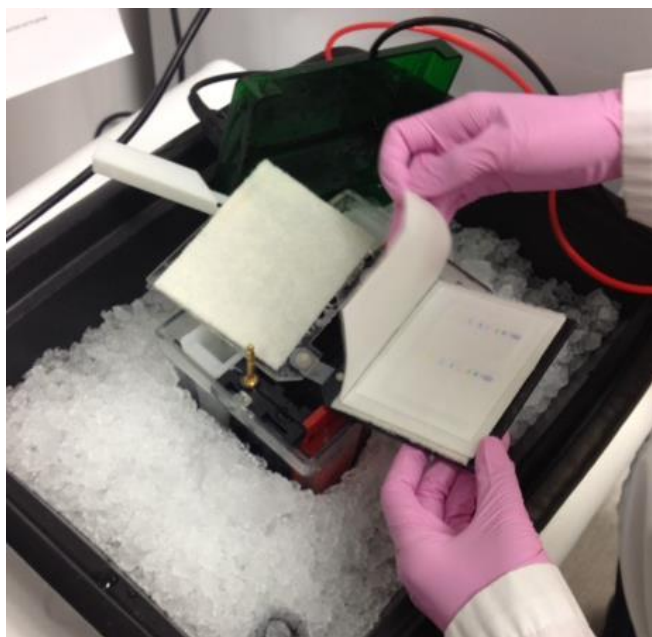

Figure 12
- 6.4. After the transfer is complete, carefully remove the assembly from the 4°C and place the transfer unit on the bench. Dissassemble the sandwich, carefully. Leave the nitrocellulose membrane on a piece of whatman paper. (See Figure 12). The damp whatman paper helps prevent the membrane from drying out.